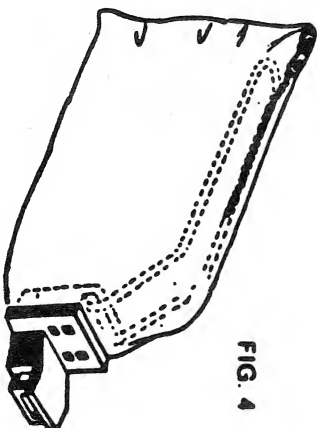

FIG. 4
3. With wire frame attached, insert assembly into dust collecting bag so the plastic adapter protrudes through the opening in the end of the bag, and the wire frame is positioned at the zippered opening. (Fig. 4)